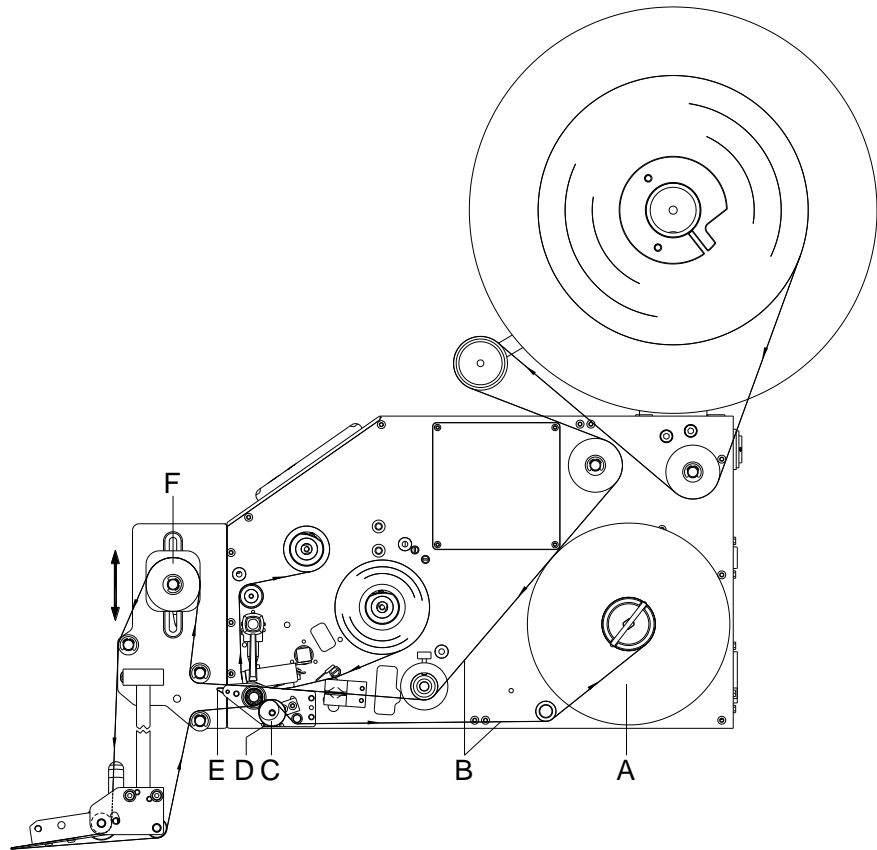

Figure 17
1. Move the dispensing rocker (D, Figure 17, page 30) forwards/upwards by pulling out the knurled knob (C, Figure 17, page 30).
2. Turn the clamping lever (D) against clockwise direction to loosen the mounting plate (A).
3. If required change the angle position of mounting plate (A).
4. Turn the clamping lever (D) in clockwise direction to tighten the position of mounting plate (A).
5. Turn the internal rewinder (A, Figure 17, page 30) of the printing module as long as the backing paper is tightened.
6. Press the dispenser rocker (D, Figure 17, page 30) again upwards and engage.